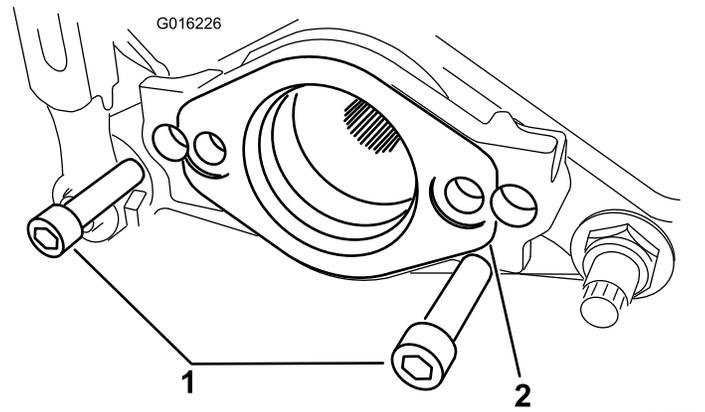

Figure 5
9. **If you are installing the kit on a Triflex machine**, remove the 2 bolts securing the motor mount to the cutting unit. Remove the motor mount (Figure 5).